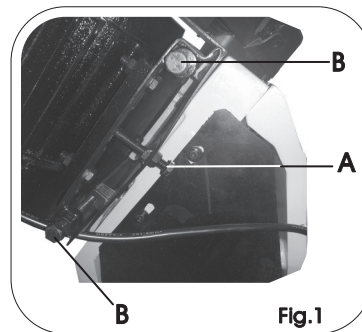

Fig.1
3. Loosen the motor plate lock bolt (Fig.1, A).
4. Loosen the motor slide bolts (Fig.1,B), you should now be able to push the motor inwards to slacken the belt off.